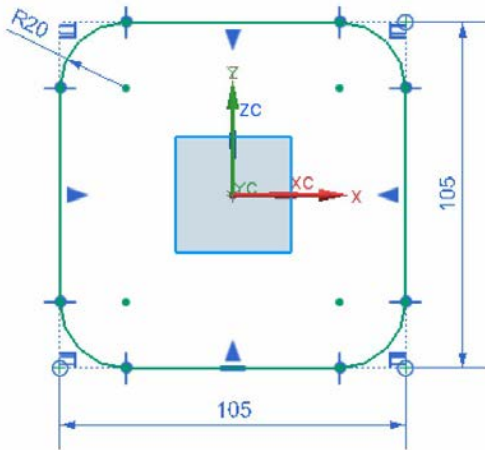

Figure 6-95 The sketch of the base feature
- a. Draw the sketch of the base feature of the model and extrude it, refer to Figures 6-95 and 6-96.
2. Draw the sketch of the base feature by using the XC-ZC plane as the sketching plane, as shown in Figure 6-95. Next, exit the sketching environment.